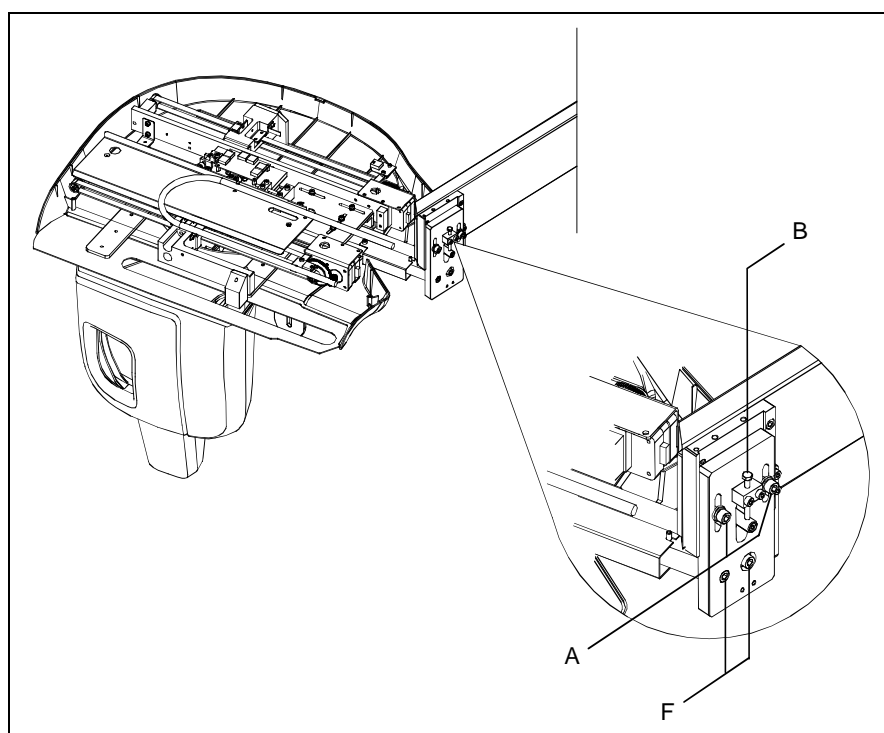
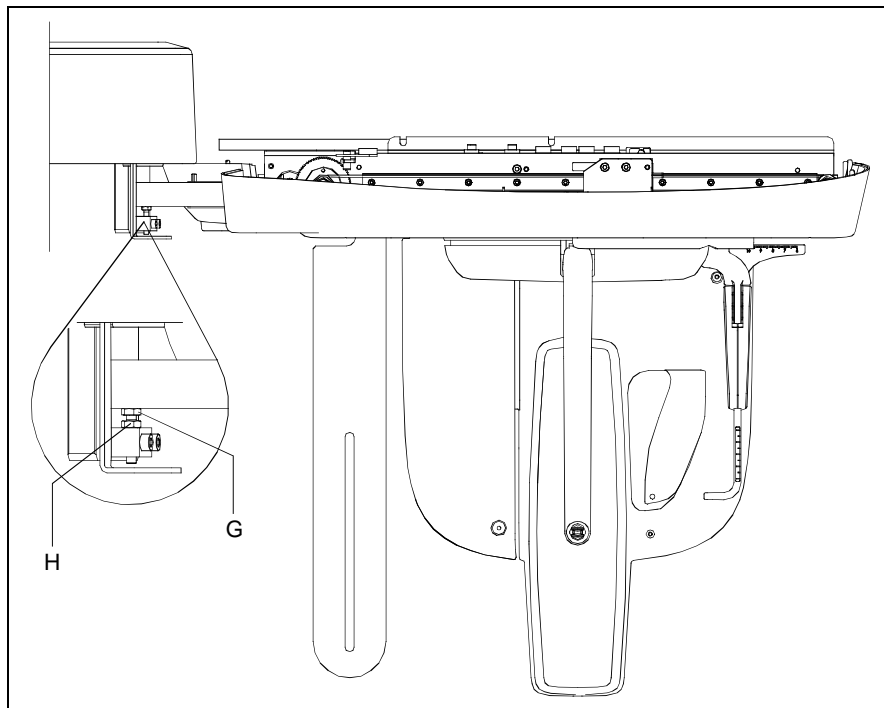

Figure 7-4
Figure 7-5
15. If it will be necessary to change the height of the CEPH arm, loose the two screws "A" (Figure 7-4), and acting on the screw "B" adjust the height of the Ceph group. Repeat from step 10 until the vertical alignment is reached. Tighten the loosened screws "A".
- 17.** To adjust the vertical alignment between the two rings, loose the two screws "F" (Figure 7-4) and adjust the position of the arm acting on screw "G" (Figure 7-5). Once the aligned position has been reached (test exposures are required), tighten bolt "H" (Figure 7-5) and tighten screws "F".